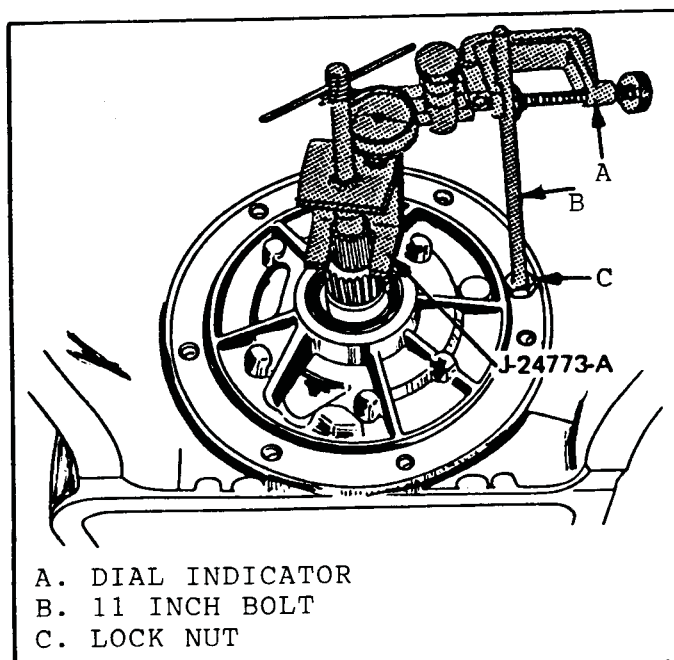

Figure 47
1. Remove a front pump bolt and install an 11" bolt and lock nut (Figure 47).
3. Install pump remover J-24773-A as shown in Figure 47.